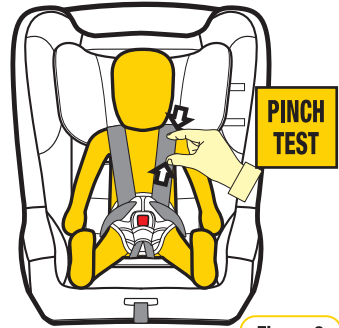

Figure 8
Step 6: Check the harness tightness by the **PINCH TEST**, this is achieved by pinching the harness webbing at the shoulders (refer Figure 8)